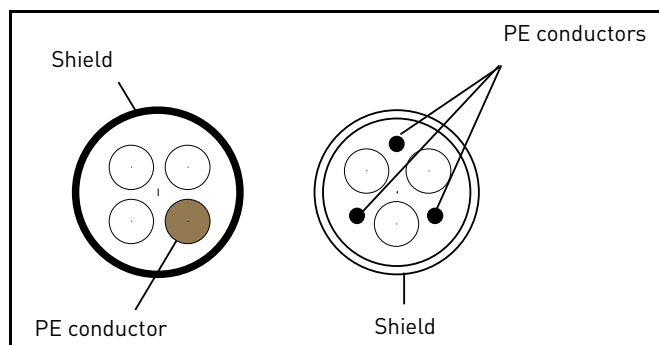

Figure 17.
- 2 = Symmetrical power cable equipped with concentric protection wire and intended for the specific mains voltage. (MCMK or similar recommended). See Figure 17.
- 3 = Symmetrical power cable equipped with compact low-impedance shield and intended for the specific mains voltage. [MCCMK, EMCMK or similar recommended; Recommended cable transfer impedance (1...30MHz) max. 100 mOhm/m]. See Figure 17.